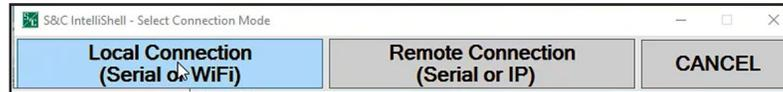

Figure 57. The IntelliShell Local Connection button.
STEP 1. Click on the **IntelliShell** button and click on the **Local Connection (Serial/Wi-Fi)** button. See Figure 57.